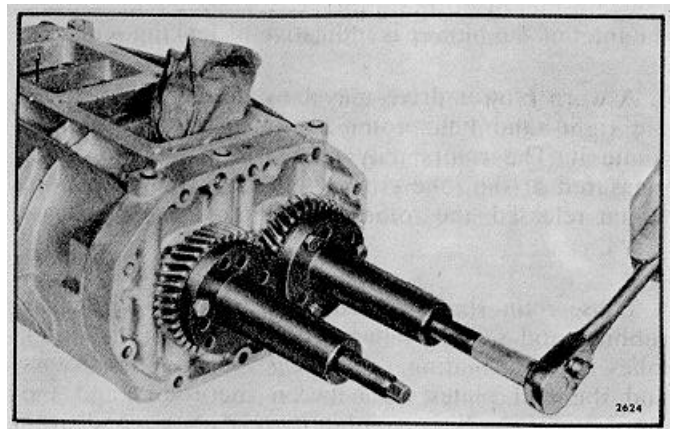

FIG. 4 - Removing Blower Gears with Tool J 6270-31
2. Remove the timing gears with pullers J 6270-31 (Fig. 4). Both gears must be pulled at the same time as follows:
- b. Turn the two puller screws uniformly clockwise and withdraw the gears from the rotor shafts as shown in Fig. 4.